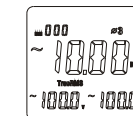

Figure 9-5
- As shown in Figure 9-5, please press SELECT key to select the 3rd phase location. It also can display active power, voltage and current of phase location of $\phi 3$.